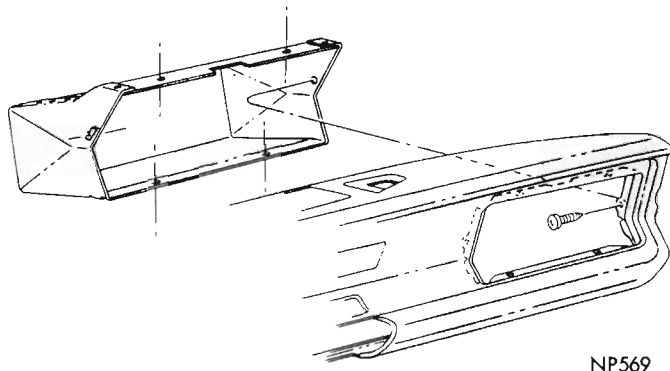

Fig. 1 - Glove Box - Valiant
The glove box is a one piece folded type (Figs. 1, 2, and 3).
- (2) Remove screws attaching box to top and side areas of opening (Figs. 1, 2 and 3).
- (3) Remove glove box from under and to rear of instrument panel.